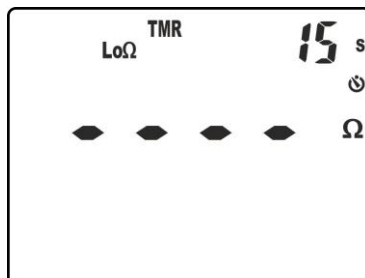

Fig. 30: Setting the measuring time in TMR mode
5. Press keys **▼/⚡** or **▲/ZERO** to select the measuring time (timer) in range: **1s ÷ 30s**. Please note the value in the top part of the display on the right (see Fig. 30).